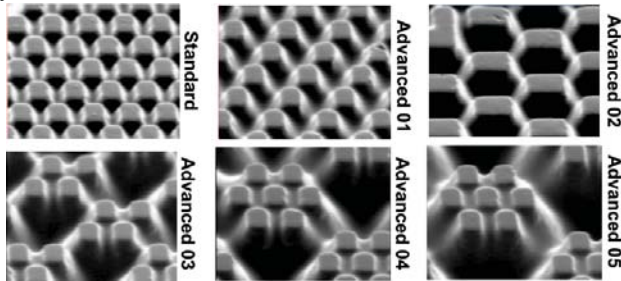

Figure 2b: NX Advantage Advanced Patterning
1. Advanced ink transfer capabilities improve color fidelity – the launch of the NX Advantage for the KODAK FLEXCEL NX System, recipient of a 2015 PIA / GATF InterTech Award, adds an advanced range of plate surface patterns, Figure 2b. that are applicable to all flexographic applications and expand upon the strength of DIGICAP NX Patterning to improve ink transfer in a wider range of situations and for a broad range of anilox volumes. The result for higher volume anilox applications is more efficient ink transfer, smoother ink laydown and a vast reduction in pinholes. The application of this technology to white ink produces a smooth pinhole free white allowing flexo printers to achieve stronger and cleaner colors, avoiding the traditional “muddy” colors associated with flexo.